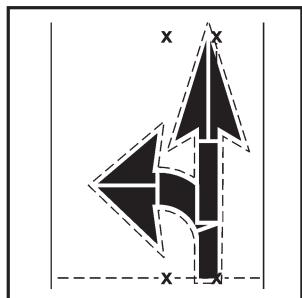

Figure 25
- Mark around the entire arrow assembly with grease chalk or keel (see Figure 25).